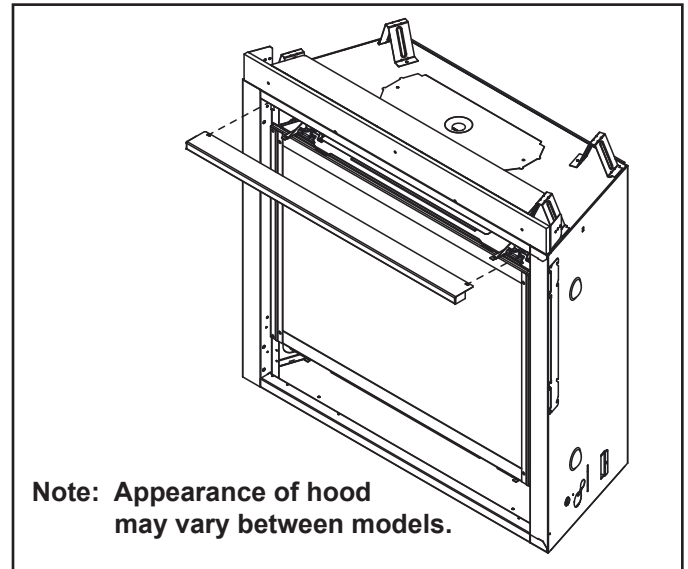
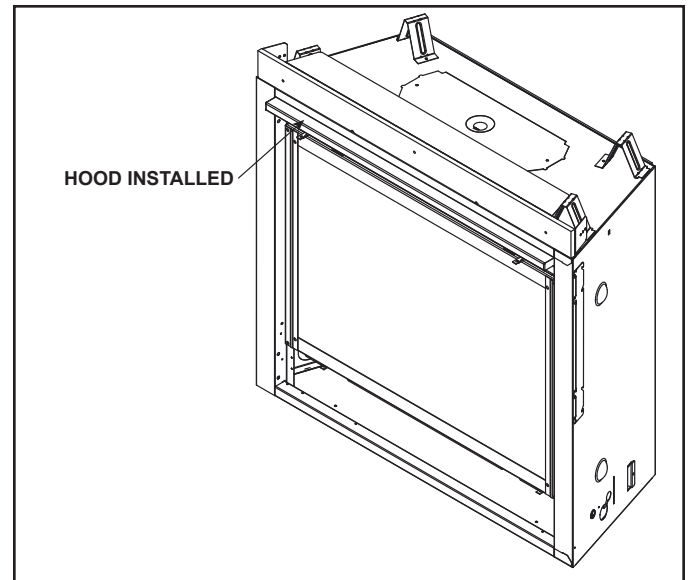

Figure 3. Install Hood
Figure 4. Hood Installed
- 7. Install the hood by inserting the oval holes on the hood into the hood clips inside the appliance near the top. Push the hood into the clips until it can go no further. See Figure 3. See the properly installed hood in Figure 4.